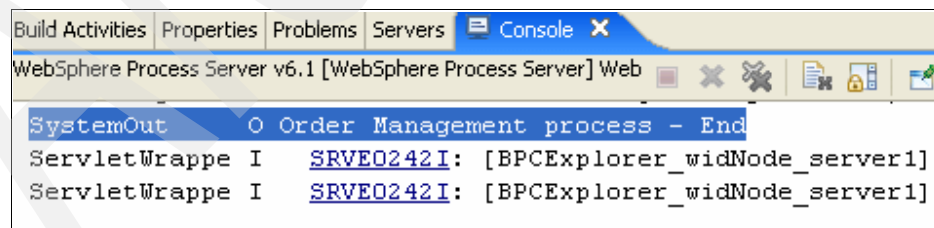

Figure 3-165 Console view after running human tasks
22. Go to the Console view and look for the message that tells you that the process is completed, as shown in Figure 3-165.